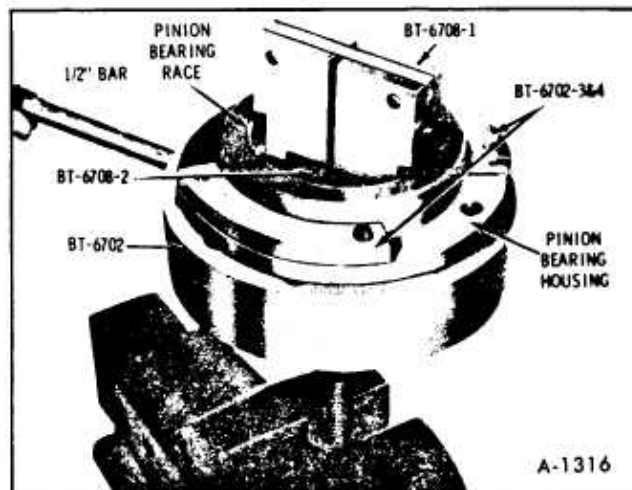

Figure 28-Removing Pinion Rear Bearing Outer Race
16. If necessary to remove the pinion rear outer race, it can be removed as shown in Figure 28.